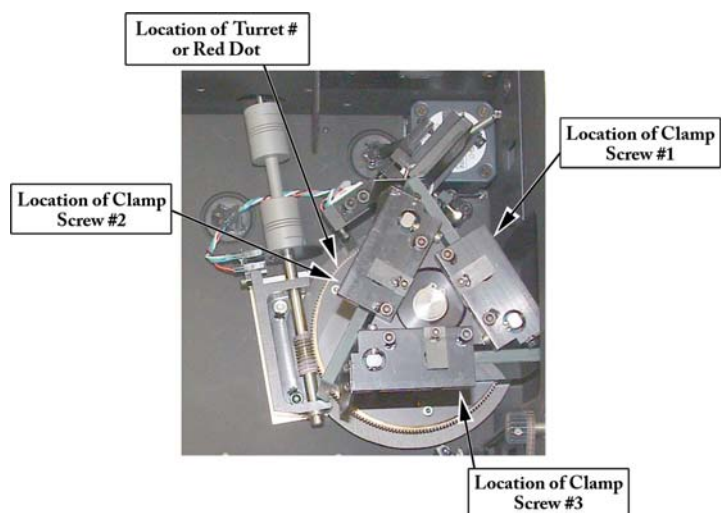
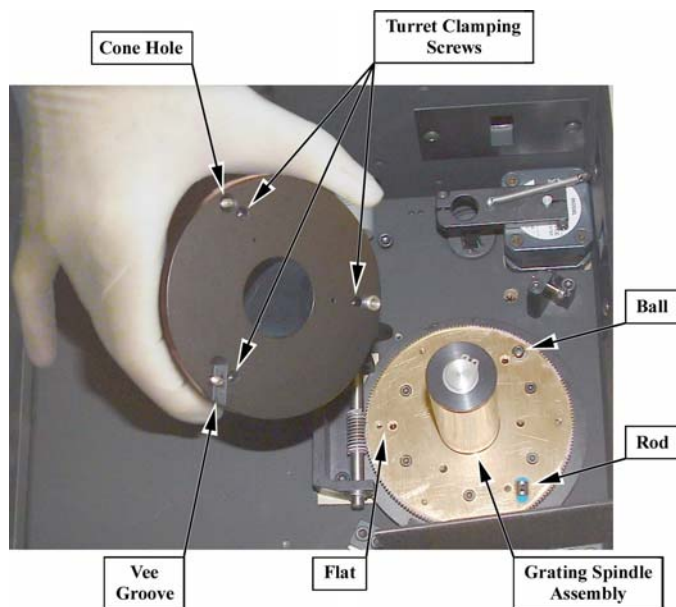
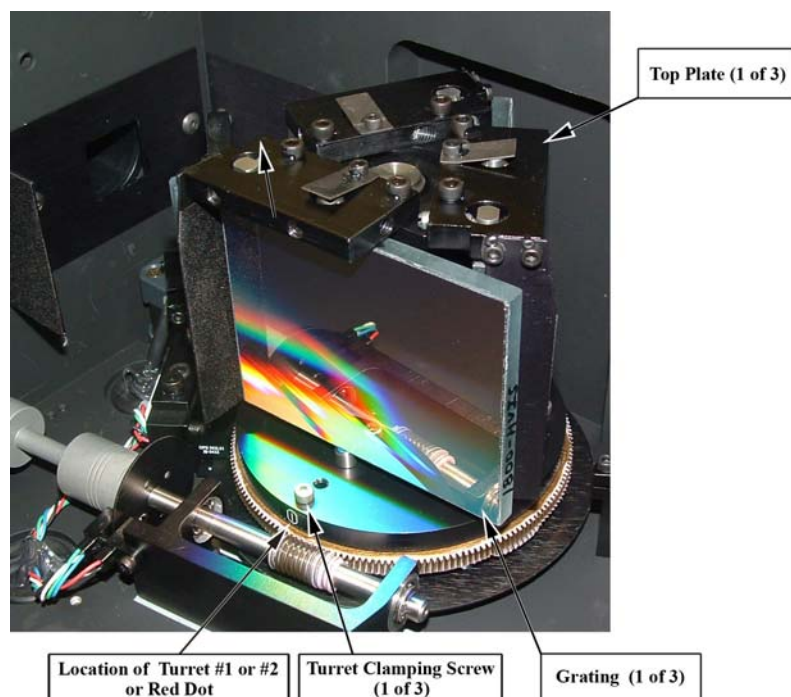

Figure 23. Location of Turret # (or Red Dot) and Clamp Screws
Figure 24. Location of Grating Spindle Assembly
Figure 25. Location of Turret Clamping Screw
2. Become familiar with the components as labeled on Figure 23, Figure 24, and Figure 25.
5. Locate a 9/64 ball end hex wrench. Refer to Figure 25 and with the 9/64 ball end hex wrench, loosen the turret clamping screw #1.
7. Use extreme care so as not to touch the grating surfaces and grasp the top plates of the grating turret, refer to Figure 24. Lift the grating turret straight up off the grating spindle assembly. If the turret cannot be lifted up, assure the 3 clamping screws are disengaged from the grating spindle assembly.
11. Locate the grating turret # on the grating turret assembly. Assure the monochromator is at grating #1 and at **highest** wavelength position. Refer to Figure 23 and place the grating turret on the grating spindle with the turret # located as shown.